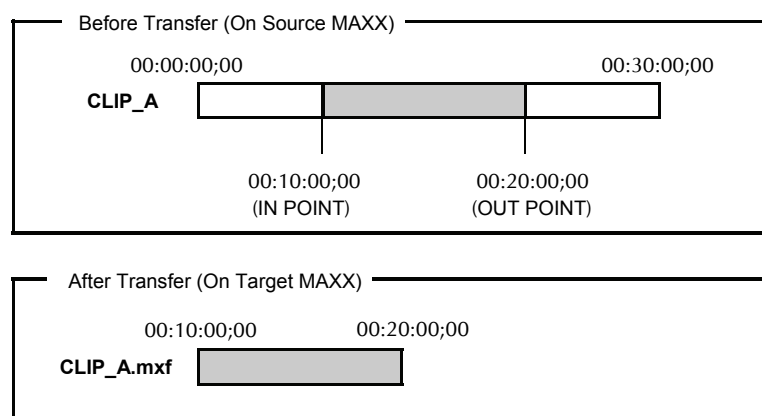

Figure 28 – Result of an MXF file transfer
- To maintain the identity of the transferred clip, the time code references for its Mark-In/Out points are maintained, as shown in **Figure 28**.